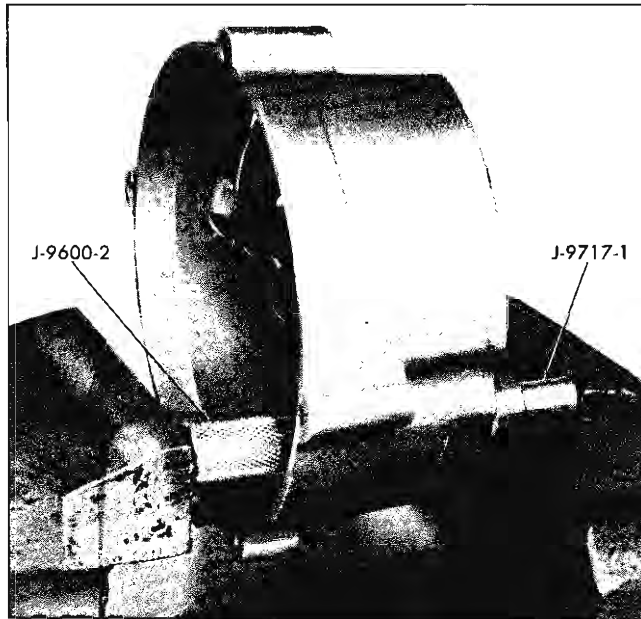

Fig. 11-22 Installing Diode
4. Place slip ring end frame in a vise so that new diode is in position and remove J-9717-1 supports casting (Fig. 11-22).